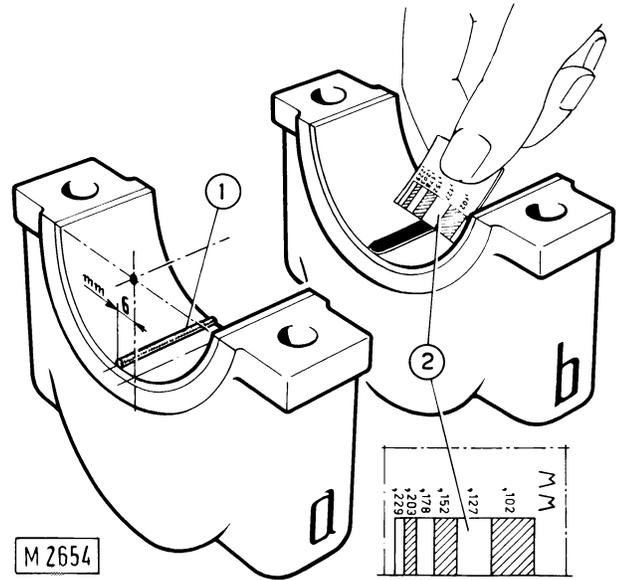

Fig. 25 - Checking bearing running clearance.
- Place a length of Perfect Circle Plastigage, type PR-1 or PB-1 calibrated wire over the bearing at approximately 6 mm or 1/4 in from the centerline. (See Fig 25).